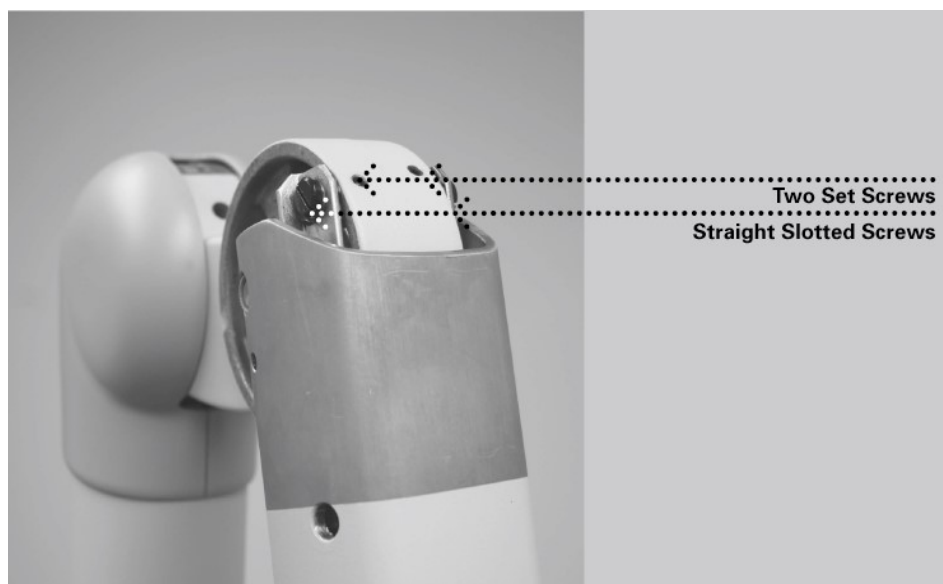

Figure 101
Follow this procedure **ONLY** if the yoke assembly does not stop on its own and makes contact with the horizontal arm. Refer to *Figure 101* while following the procedures below.
1. Loosen the two set screws highlighted in *Figure 101*, but do not remove them completely.
2. Loosen the two straight-slotted screws highlighted in *Figure 101* (the figure shows only one of the two screws – the other is located on the opposite side of the arm), but do not remove them completely.